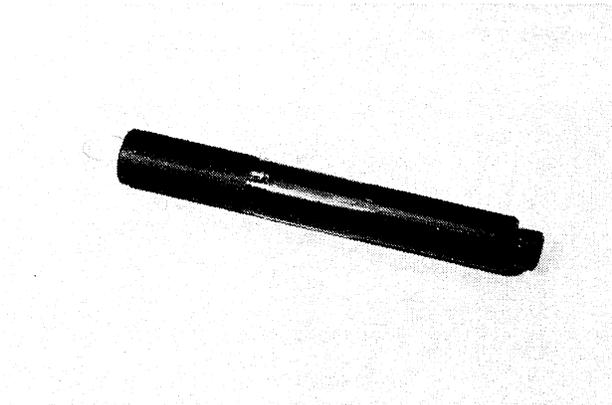

Figure 2:
When used with Spicer Transmission equipped with standard bearing cap, it should be mounted with large facing diameter toward transmission (see Figure 2).
1. Prior to actual clutch removal, assemble a clutch disc aligning tool to the driven disc and release bearing assembly. (see Fig. 2).